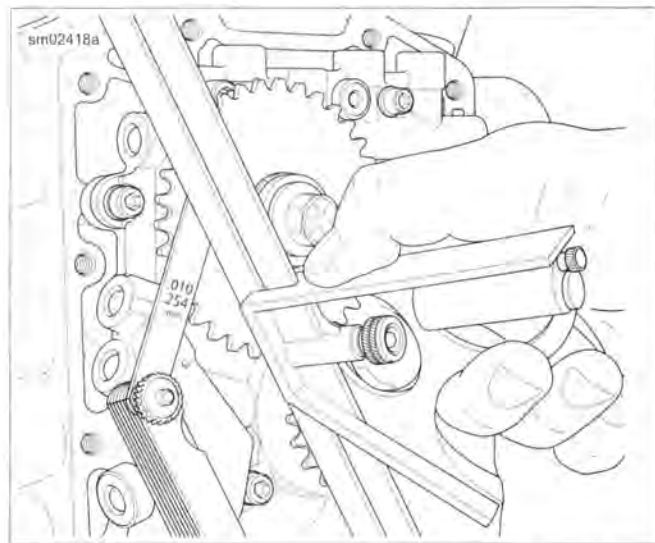

Figure 3-103. Check Alignment of Crank and Rear Cam Sprocket Faces
- f. See Figure 3-103. Place a straightedge across the sprocket faces. Attempt to insert a 0.010 in (0.254 mm) feeler gauge between the straightedge and each sprocket face. If the feeler gauge will not fit at either location, sprocket offset is within specification. Remove both sprockets and discard temporary small washer.